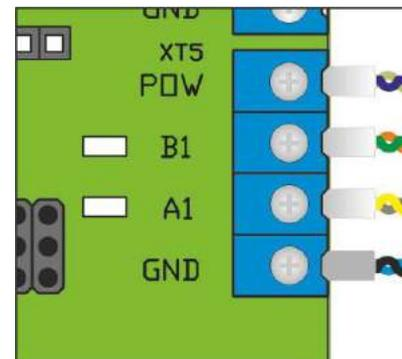

Fig.18– Connection of control desk link cable to terminals PCB.206.21.00.00
- Earth (PE) to be connected to earthing terminal (PE).
b) Control desk link cable to be connected to terminals (Fig.18):